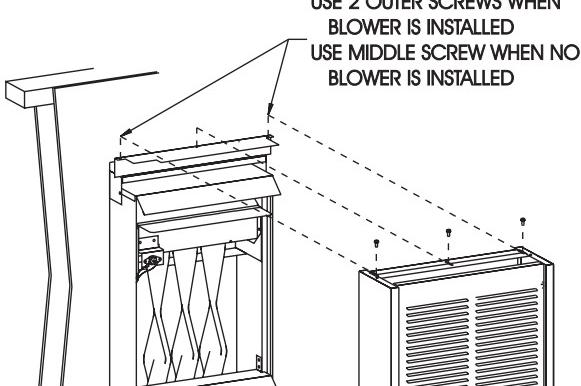

Figure 1
4. At the top of outer casing remove (1) screw from center clearance hole that attaches outer casing to header assembly. Also, remove (2) screws that attach bottom of outer casing to inner casing.
6. Remove (4) 8 x 3/8" screws that attach blower front to blower housing.
9. Attach outer casing to header assembly. **Attention:** The center clearance hole will not be used. The two outside clearance holes will be used to attach outer casing to header assembly, (1) screw from Step 4 and (1) screw supplied in hardware package. Refer to Figure 1.